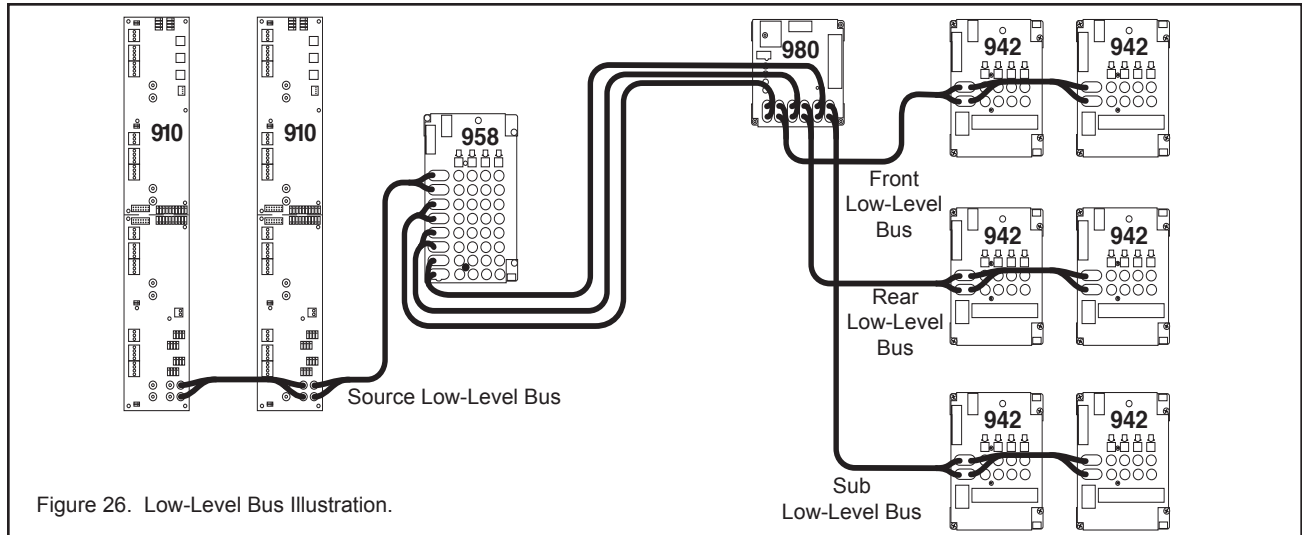

Figure 26. Low-Level Bus Illustration.
- Connect the processor output bus to the 980 System Module input bus; connect the 980's output bus to the amplifier bus input. The 980 has inputs and outputs to feed processor output signals to front, rear, and sub amplifier groups (see Figure 26).